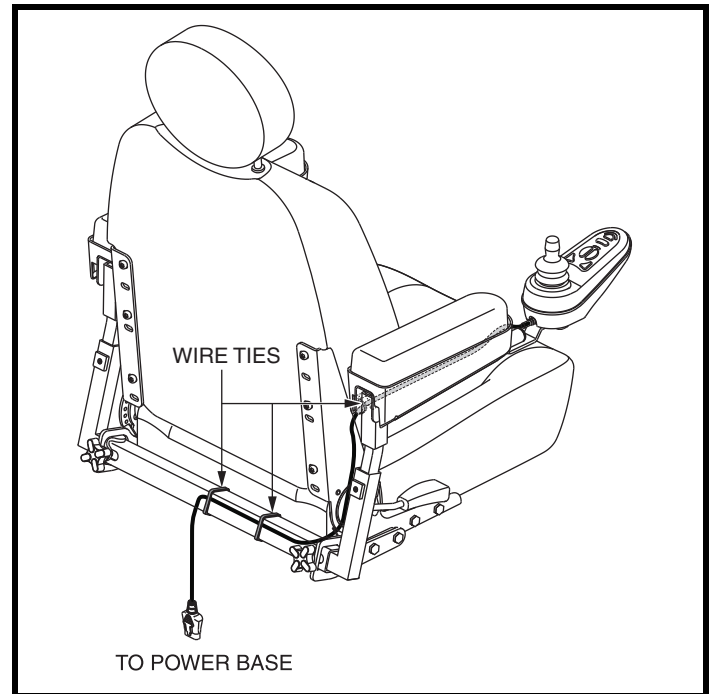

Figure 10. Controller Harness Routing
8. Secure the controller harness to the armrest receiver with one or more wire ties. See **figure 10**.
11. Use wire ties to secure the controller harness to the armrest. See **figure 10**.